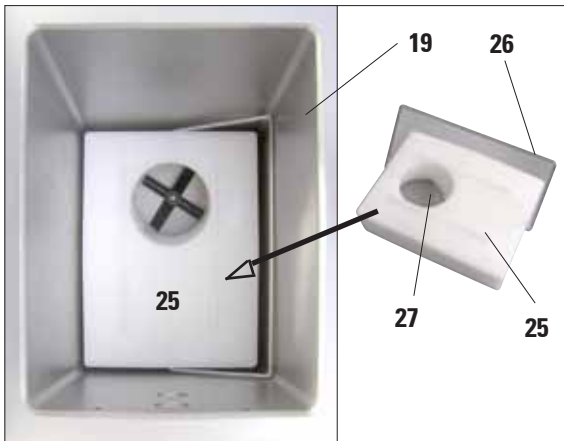

Fig. 8
- Take the volume replacement body (Fig. 8, 25) at the metal clip (26) and insert it into the retort (19) such that the bore (27) is above the position of the magnetic stirrer.